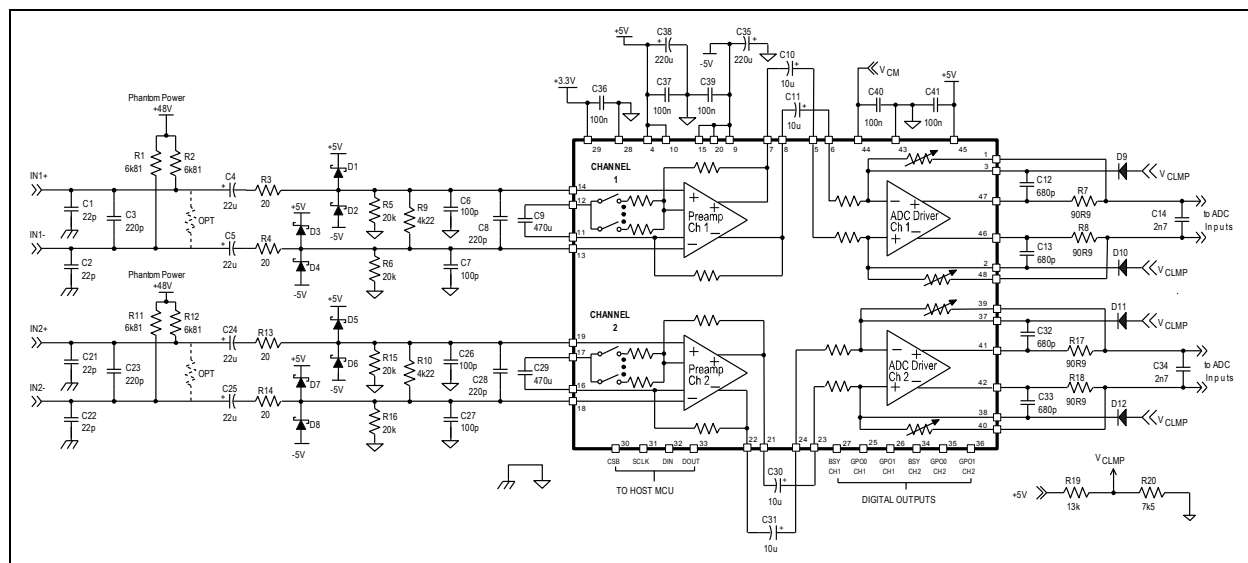

Figure 17. A typical bipolar-supply THAT 626x application circuit. See also Figure 18 for an alternative ADC anti-aliasing filter configuration.
Figure 17 is a typical 626x application circuit utilizing bipolar power supply rails. In this section, we discuss channel 1 in detail. However, all of the comments apply to the analogous components in channel 2.
The coupling capacitor (C9 in Figure 17, or CG in Figure 12) limits DC gain in the preamplifier to unity, regardless of the differential audio gain setting. The on-chip gain-setting R_G resistors in series with these capacitors vary with gain, which causes the cutoff frequency of the resulting high-pass filter also to vary with gain. This filter reaches its highest frequency at the minimum R_G (the highest gain), which is about 45 Ω (see Table 2). Hence, the highest cut-off frequency, with the 470 μF value shown in Figure 17 is ~ 7.5 Hz. Larger values will scale this frequency down proportionately. Since these capacitors, which are often physically large and stick up from the PCB, are effectively in series with the preamplifiers’ inputs, they can serve as antennae to collect interfering signals. Take care to minimize possible sources of interference nearby that may be picked up by these large coupling capacitors.
The 626x ADC driver inputs (pins DI+_{CHx} and DI-_{CHx}) are capable of accommodating the full differential and common-mode signal range at the pre-amp outputs. However, the ADC driver’s fully-differential opamp inputs (brought out on pins CFB+_{CHx} and CFB-_{CHx}) have a common-mode input range of 1V to +5V. If this common-mode range is exceeded in the negative direction, the opamp’s inputs and outputs can get stuck close to ground. Diodes D9 and D10 in Figure 17 clamp the minimum voltage at the ADC driver opamp’s inputs to one diode drop below the voltage V_{CLMP} . For V_{CLMP} nominally +1.8V, the diodes ensure that the opamp’s inputs do not go below 1V above ground. This ensures that the ADC driver will accept the full 3.8V_p common-mode signal swing that can be present at the preamp outputs.
+5V) and ground. In Figure 17, this divider is made up of 13 k Ω and 7.5 k Ω resistors R19 and R20.
Phantom power is required for many condenser microphones. It is connected to the preamp inputs through resistors, R1 and R2, per +48V phantom power standards. THAT recommends the protection circuits as shown in Figure 17 when phantom power is included. R3 and R4 are to limit the current that flows through the preamp inputs during phantom power faults that can occur if one or both of the inputs are shorted to ground while phantom power is on. We recommend that R3 and R4 should be at least 20 Ω to limit destructive currents to under ~ 2.5 A. (Higher values provide more protection by further limiting current flow, but their additional source impedance adds noise.) The protection resistors used should be able to handle the short-term inrush current; many small surface-mount types cannot. With the values shown for C4 and C5, we recommend at least ¼ W resistors.
Figure 17) when C4 and C5 are as shown at 22 μ F. The large 220 μ F capacitor absorbs the charge dumped by C4 and/or C5, and keeps the -5 V rail from being pulled excessively negative, which could damage the 626x. If larger values are employed for C4 and C5, then C35 and C38 should be increased proportionately.
The most common anti-aliasing filter configuration for driving audio ADCs is shown in Figure 17. Capacitors C12 ~ C14, resistors R7 and R8, and the internal feedback resistors of the ADC driver form a second-order lowpass filter. Since R7 and R8 are inside the amplifier's feedback loop, the closed-loop output impedance remains quite low inside the audio band, but they still serve to isolate the ADC driver's output from the high-frequency charging currents for the typical ADC's switched-capacitor inputs. C14 should be placed physically close to the ADC input pins.
As noted above, in the 6261, the ADC driver's internal feedback resistors vary, which will have a small effect on the overall filter response. The frequency response for the -8 dB case is -3 dB at 560 kHz and -48 dB at 6.144 MHz. The response of the -5 dB case is -3 dB at 419 kHz and -51 dB at 6.144 MHz. As with the filter shown in Figure 17, for
As shown in Figure 17, THAT recommends a 100nF capacitor to ground on all the supply rails plus the VCM reference (pin 44) for high frequency noise filtering. For best effectiveness, place each 100nF capacitor close to its associated pin in the PCB layout. For rails with multiple pins, e.g., V_{A-} and V_{A+} , only a single 100nF capacitor is needed per supply; connect the capacitors near pins 9 and 10.
- Delete clamp diodes D9 and D10 and the V_{CLMP} voltage divider R19 and R20 (from Figure 17) as these are not required for unipolar operation.
Further, the DC level of the preamplifier output is one V_{BE} below +5V Filt (thus about +4.3 V), while the ADC driver input’s DC level is at V_{CM} (nominally +3.1 V). Hence, the ac-coupling capacitors between the preamp and ADC driver stages (C10 and C11) are reversed in polarity from those in Figure 17. We recommend these capacitors be rated at least 3.3 V.
Because the ADC driver V_{cm} voltage is set to +3.1V for unipolar applications, the full common-mode swing output swing from the preamp cannot force the ADC driver opamp inputs below the minimum allowable level. Hence, diodes D9 and D10 (and the associated voltage divider) as in Figure 17 are not needed when the 626x is powered by unipolar supplies.